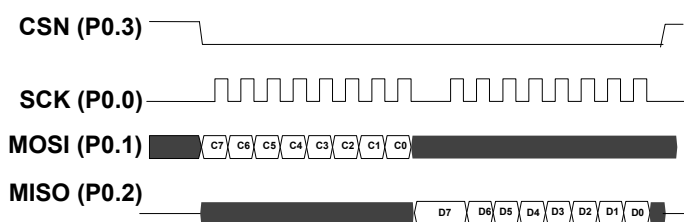
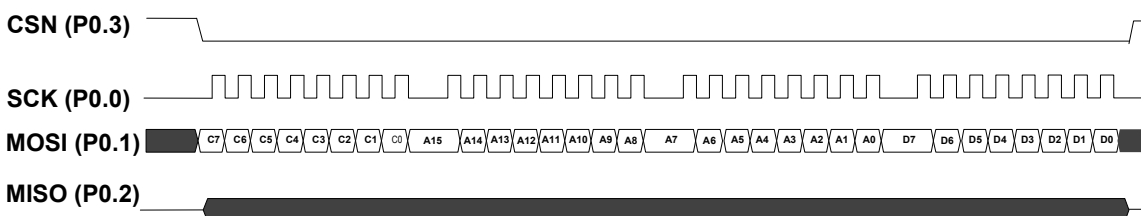

Figure 63. SPI read command without address
Figure 66. SPI OTP write operation, shown with 1 databyte
An SPI command always starts with the external master sending a command byte to the OTP slave, followed by a variable number of address and data bytes. The number of address and data bytes is specific to each command, as shown in Table 119. on page 141. In Figure 63. on page 141 to Figure 66. on page 142, C_n are the SPI command bits. A_n are the address bits and D_n are the data bits (note: MSBit in each byte first). After CSN is deactivated, an OTP write command requires the chip to do the OTP programming, and this will take some time to complete. Therefore, it is advised to not issue a new command until the specified amount of time has elapsed. Alternatively, you can repeatedly issue `RDSR` commands until the `FSR.RDYN` bit reads back as 0.
The SPI command `RDSR` reads out the content of the OTP status register `FSR`, and consists of one-command byte and one-data byte as shown in Figure 63. on page 141. By keeping the `CSN` line active after the first data byte, `FSR` will be repeatedly re-read until `CSN` is set inactive.
3. The `PROGRAM` command is sent on the `MOSI` line followed by the two-byte address (address of the first byte) and the data to be programmed/ written, as shown in Figure 66. on page 142.
The SPI command `RDFPCR` reads out the content of the OTP protect configuration register `FPCR`, and consists of one command byte and one data byte as shown in Figure 63. on page 141.
The sequences of command and data in an SPI command are found in Figure 64. on page 141 and Figure 66. on page 142. In these figures only 1 byte of data is shown. Typically for read and write data transfers, the block should be as long as possible (64 to 256 data bytes gives the best performance).